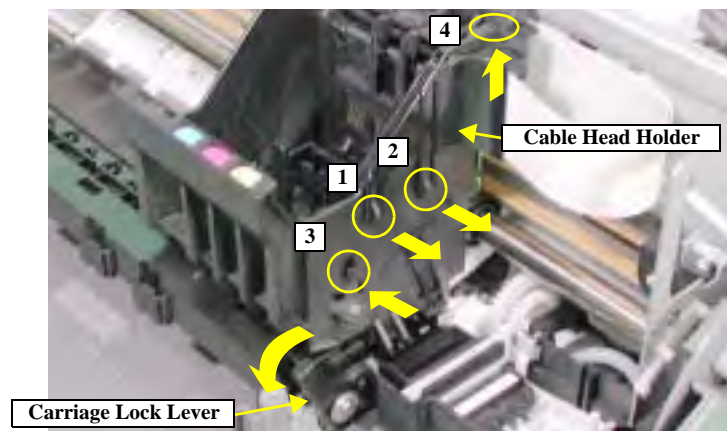

Figure 4-37. Printhead Removal 3
5. Follow the order shown in Figure 4-37 below to release 4 hooks, then remove Cable Head Holder from Carriage Unit in upward direction.